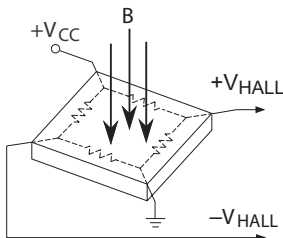

Figure 1: Hall Element, Basic Circuit Operation
The Hall element can be considered as a resistor array similar to a Wheatstone bridge. A basic circuit is shown in Figure 1, demonstrating the effect of the magnetic field flux density (B) impinging on the Hall element. When using Hall effect technology, a limiting factor for switchpoint accuracy is the small signal voltage (V_{HALL}) developed across the Hall element. This voltage is disproportionately small relative to the offset that can be produced at the output of the Hall device, caused by device overmolding, temperature dependencies, and thermal stress.